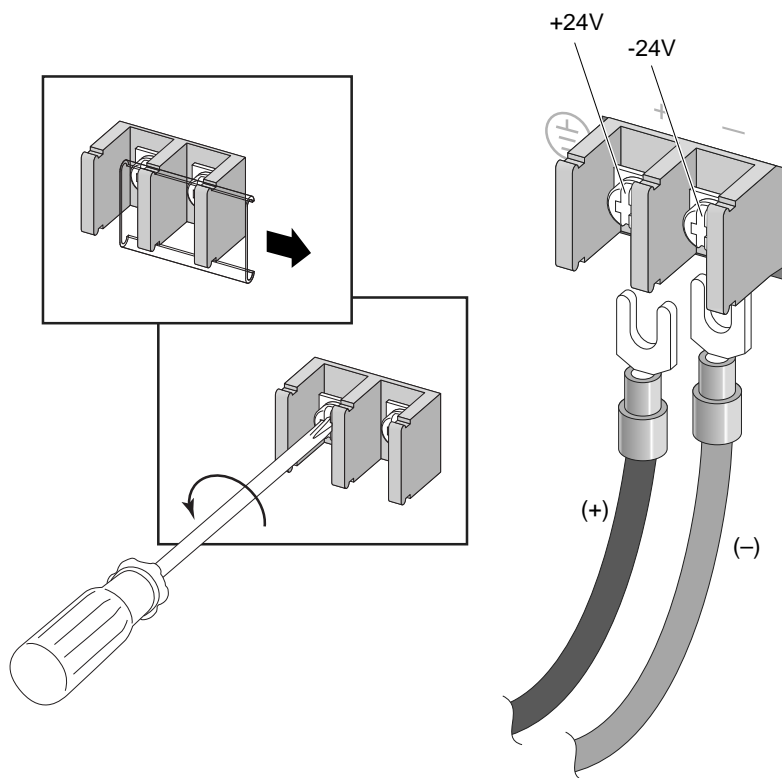

Figure 358: Connecting the DC Power Cables (Part 1)
- 2 Slide the cover off the terminal block (see Figure 358: Connecting the DC Power Cables \(Part 1\) on page 376).